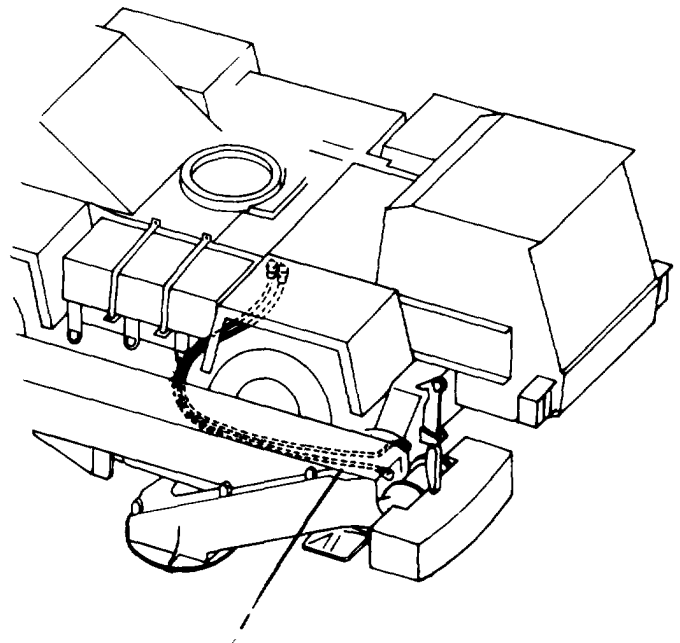

Figure 5-35 Quick Disconnect Fittings
- d. Locate two quick disconnect fittings that extend down from two tees on winch valve next to frame, underneath right side of carrier. Remove protective dust caps and connect male connectors of extension hose H-10 to H-10 winch hose and extension hose H-11 to H-11 winch hose (Figure 5-35). Attach female connectors of extension hose H-10 to H-10 valve fitting and extension hose H-11 to H-11 valve fitting. Stow plugs in tool box.